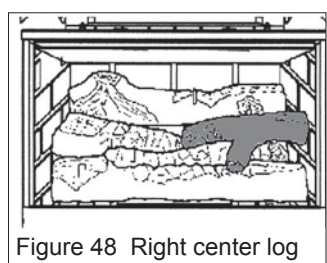

Figure 48 Right center log
5. Place the right side center log in position locating it on the two pins on the right hand side of the ash bed with its "nose" resting at the center of the ash bed. See figure 48.